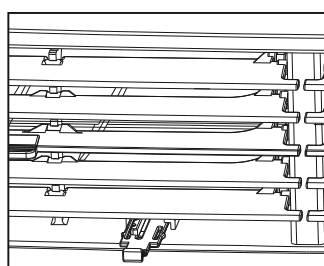

Figure 2 ( VENT OPEN )
2. Partially Pulled Out (Fig. 2) – Draws fresh air into room